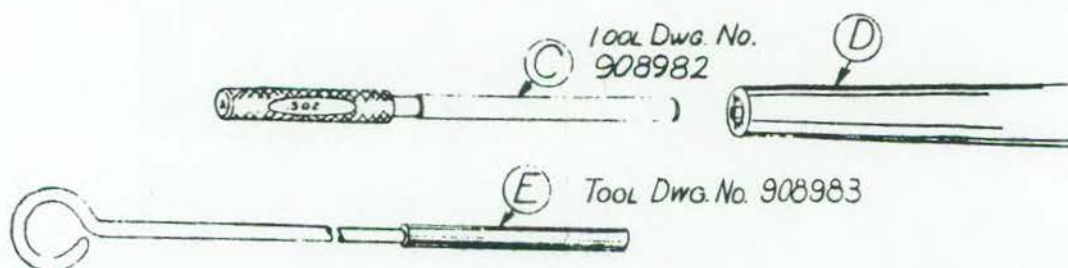

FIG. 2
- (19) BARREL IS SIGHTED THROUGH TO CHECK FOR PITS, RUST AND WEAR AND FOR STRAIGHTNESS. IF GAGE (B) INSERTED IN BREECH END PASSES THE 6" MARK, IT IS REJECTED. ANYTHING LESS THAN 6" IS ACCEPTED. IF .302" GAGE (C) ENTERS THE BARREL END OVER ONE INCH THE BARREL IS REJECTED, FIG. 2. NOW INSERT .2938" GAGE (E) THROUGH BARREL. THE .2938" (E) MUST GO ALL THE WAY THROUGH THE BARREL OR THE BARREL IS REJECTED.